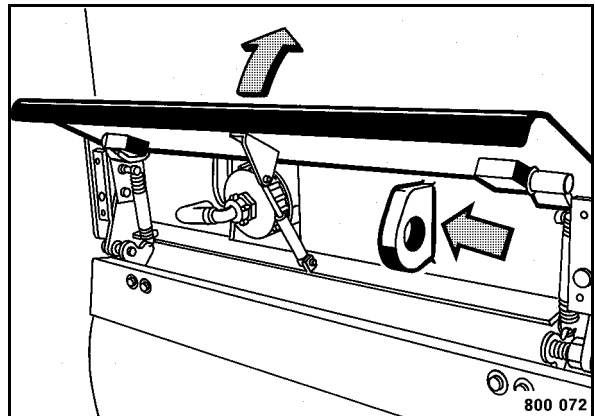

Fig. 72
- Open the rear flap and tow the machine by the towing eye (Fig. 72).